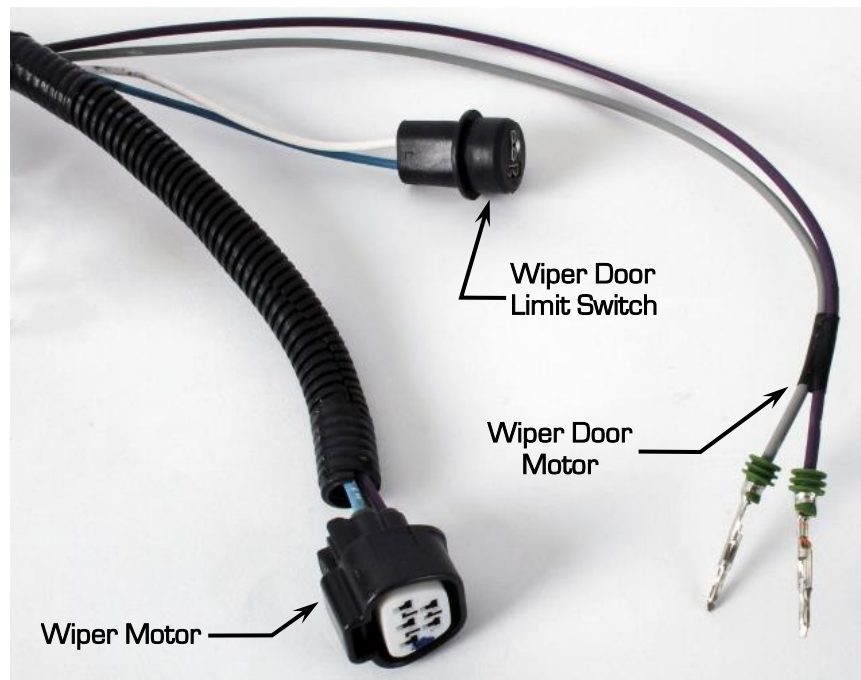

Figure 24 – Wiper Door Terminals, Wiper Motor & Limit Switch Connectors
32. Route the wiper door motor terminals, wiper motor and limit switch connector side of the wiring harness (Figure 24) through the firewall using an existing hole if possible. Otherwise you will need to drill a 1-1/4" hole to allow the wiper motor connector to pass through the firewall.